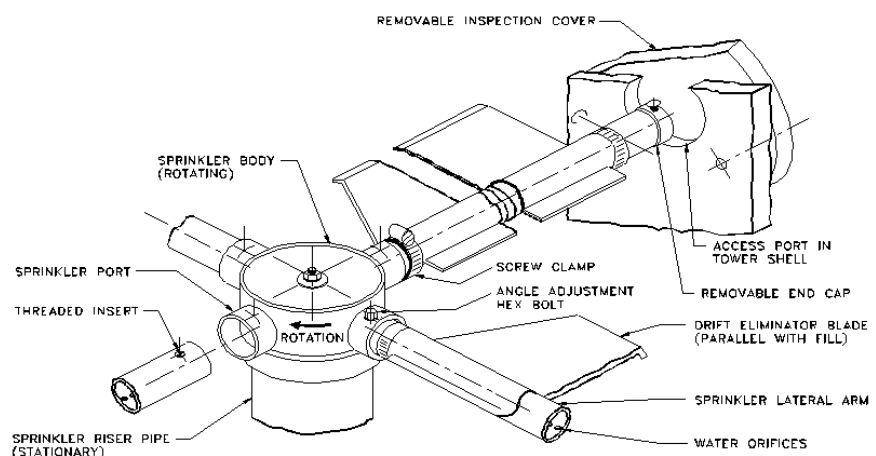

Figure 2 – Water Distribution Sprinkler System
- All four (4) sprinkler lateral arms, (see Figure 2), are normally shipped detached and are packaged and secure inside the tower.
- Two (2) aluminum lifting lugs secured to the top of the cylindrical section of the cooling tower are provided for up-righting and lifting
- The drift eliminator blades are preassembled and do not require any adjustment. Simply check to be sure the hose clamps on each end of the lateral arms are tight. With the lateral arms installed, the drift eliminator blades should be parallel with the top of the fill (See Fig. 2).
- To remove the sprinkler head, first remove the sprinkler lateral arm and drift eliminator blade assemblies. Then remove the two (2) riser pipe screws. (Refer to Figures 2 and 4).
1. Match mark riser pipe assembly and coupling. Remove the two (2) riser pipe screws and remove the entire sprinkler head assembly from the coupling.